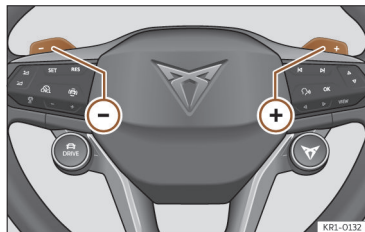

Fig. 107 Multi-function steering wheel: energy recuperation levers.
- Pressing the steering wheel levers + or - temporarily activates the manual selection of the energy recuperation level. >>> Fig. 107 Automatic recuperation is reactivated by pressing the accelerator pedal again.
- Select the energy recuperation level with the steering wheel levers + or - >>> Fig. 107.